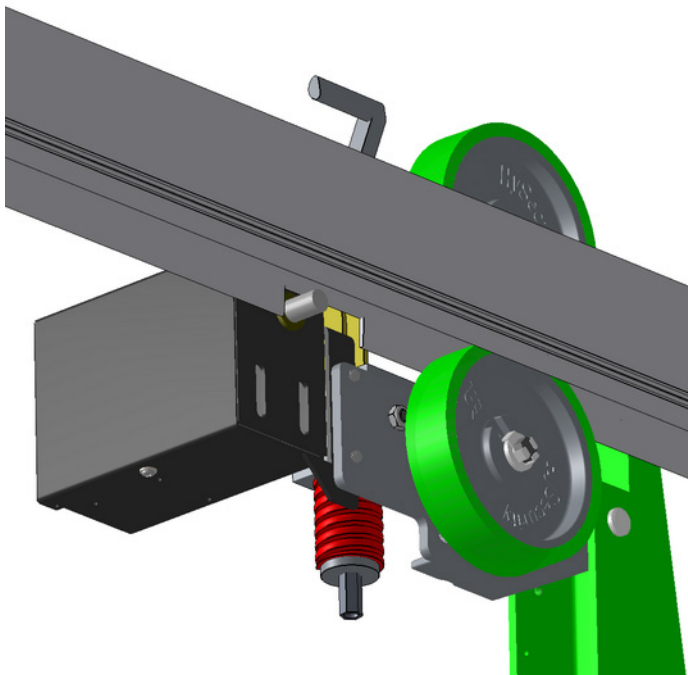

Figure 4. Prepare Drive Rail and Check Alignment
8. Using a hacksaw, make two cuts and then break out the notched section (Figure 4).